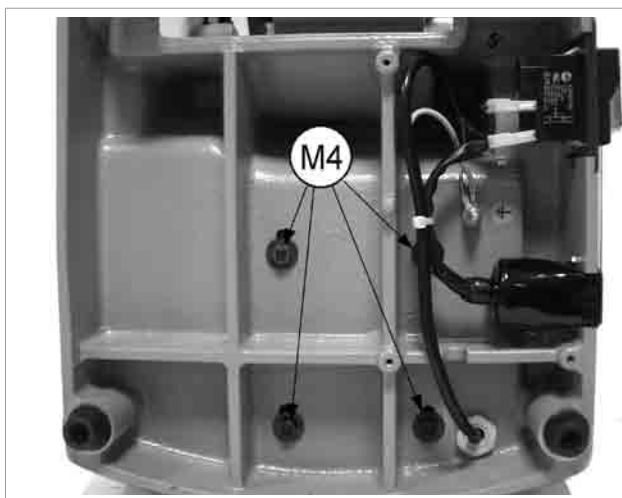

Fig.39
- 4) Loosen and remove the 4 motor fixing nuts (Fig.39).